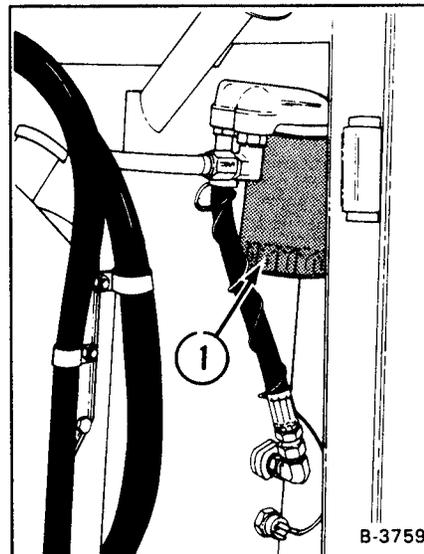
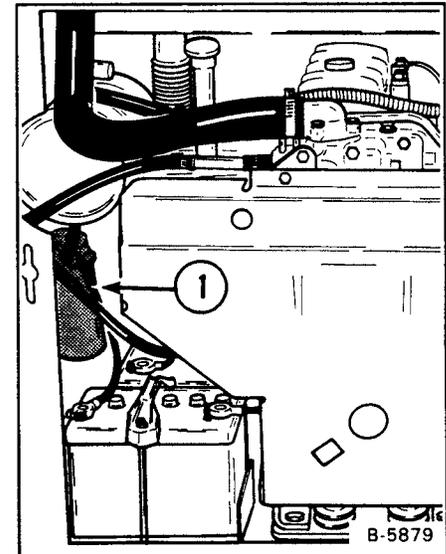

Fig. 1-34 Hydraulic Filter Location
Fig. 1-35 Hydrostatic Filter Location
See the Service Schedule (Page 1-1) for the service intervals to replace the right hand hydraulic (10 micron) filter (Fig. 1-34).
The hydrostatic warning light will come on during loader operation when the left hand (#3 element) filter (Fig. 1-35) must be replaced.
(1) Remove the filter element (Fig. 1-34, Item 1 or Fig. 1-35, Item 1). Let the fluid flow into a container.